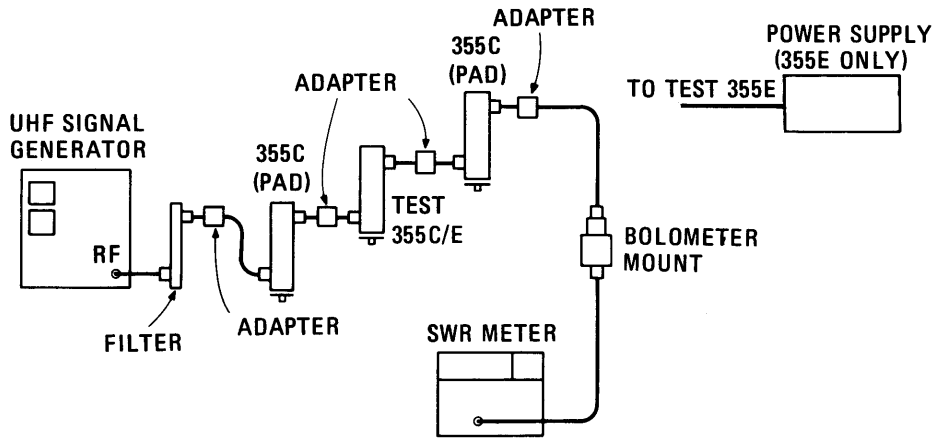

Figure 6. 355C/E RF Attenuation Test Setup
1. Connect equipment as shown in Figure 6.